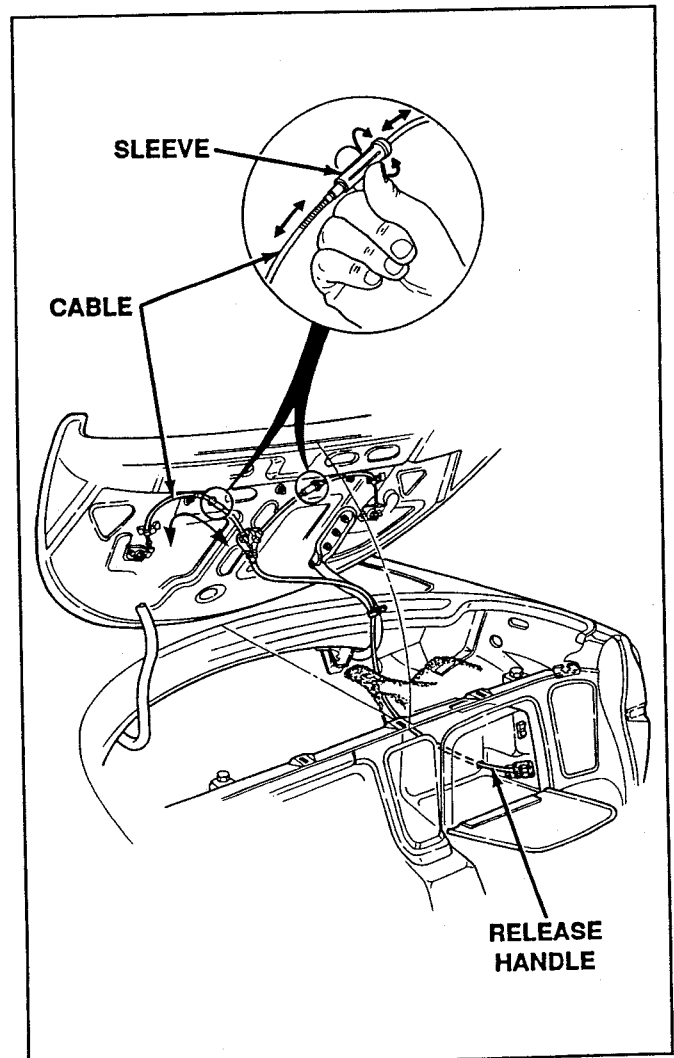

Figure 56. Adjust 5-Bow Release Cables
2. Adjust the sleeves until the latch handle has a small amount of free play (Fig. 56). The latches should operate simultaneously.